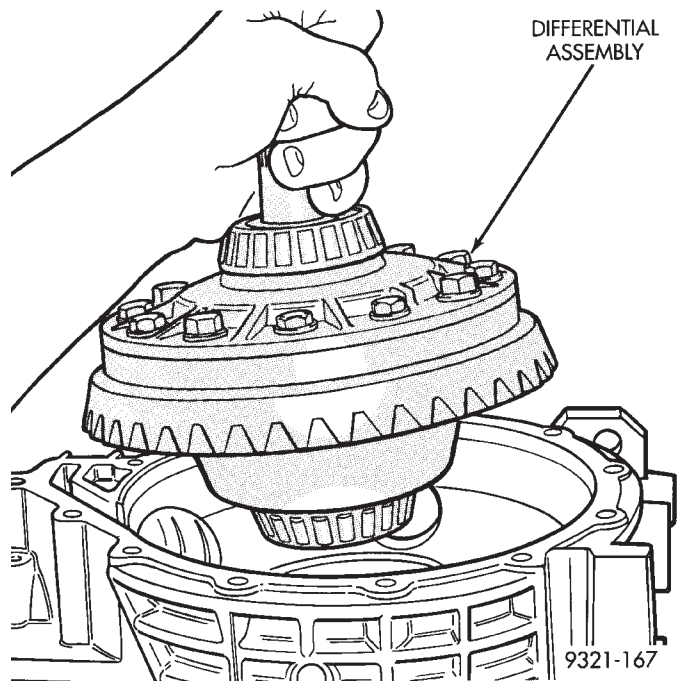

Fig. 266 Differential Assembly Installation
(25) Install differential assembly into the transaxle case (Fig. 266).